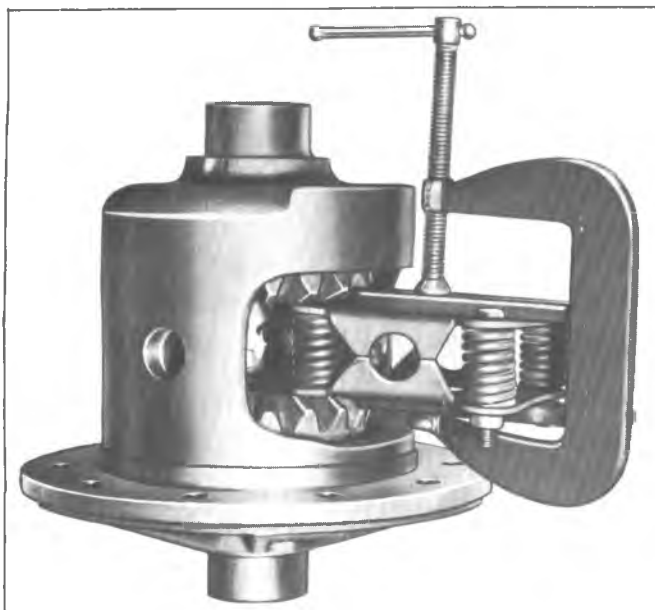

Fig. 11D--Spring Pack Compressed for Installation
9. Compress clutch pack, using a screwdriver as shown in figure 11D. Move the pinion gear to obtain tooth
15. **For all except Corvette**, assemble springs in spring retainer and clamp assembly in vise. Install "C" clamp and bar stock on spring retainer then install a 1/4 inch bolt and nut in each front spring. See figure 11D.